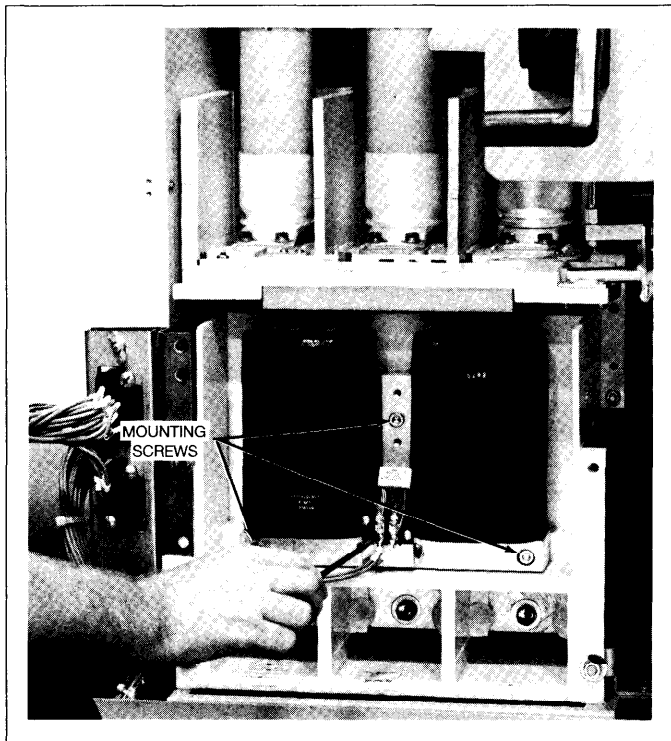

Figure 2. Coil terminal wires and mounting screws.
3. Disconnect coil terminal wires. See Figure 2.
4. Remove the three (3) coil mounting screws. See Figure 2, Item A.